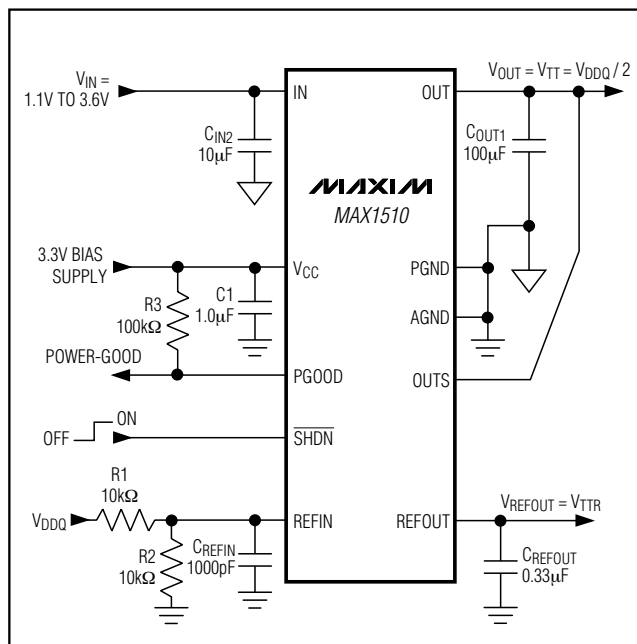

Figure 1. Standard Application Circuit
( $V_{IN} = 1.8V$ ,  $V_{CC} = 3.3V$ ,  $V_{REFIN} = V_{OUTS} = 1.25V$ ,  $\overline{SHDN} = V_{CC}$ , circuit of Figure 1,  $T_A = -40^\circ\text{C}$  to  $+85^\circ\text{C}$ , unless otherwise noted. Typical values are at  $T_A = +25^\circ\text{C}$ .) (Note 1)
( $V_{IN} = 1.8V$ ,  $V_{CC} = 3.3V$ ,  $V_{REFIN} = V_{OUTS} = 1.25V$ ,  $\overline{SHDN} = V_{CC}$ , circuit of Figure 1,  $T_A = -40^{\circ}C$  to  $+85^{\circ}C$ , unless otherwise noted. Typical values are at  $T_A = +25^{\circ}C$ .) (Note 1)
(Circuit of Figure 1.  $T_A = +25^\circ\text{C}$ , unless otherwise noted.)
The MAX1510 is a low-voltage, low-dropout DDR termination linear regulator with an external bias supply input and a buffered reference output (see Figures 1 and 2). VCC is powered by a 2.7V to 3.6V supply that is commonly available in laptop and desktop computers. The 3.3V bias supply drives the gate of the internal pass transistor, while a lower voltage input at the drain of the transistor (IN) is regulated to provide VOUT. By using separate bias and power inputs, the MAX1510 can drive an n-channel high-side MOSFET and use a lower input voltage to provide better efficiency.
The MAX1510 regulates OUTS to the voltage set at REFIN, making the MAX1510 ideal for memory applications where the termination supply must track the supply voltage. Typically, REFIN is set by an external resistive voltage-divider connected to the memory supply (VDDQ) as shown in Figure 1.